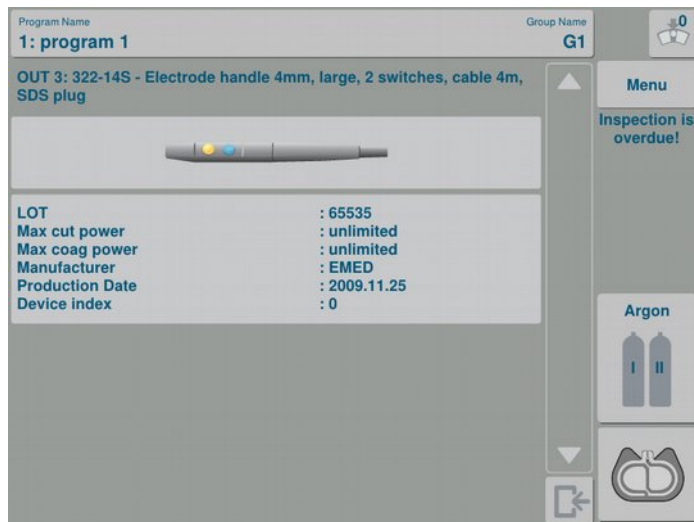

Fig. 14. Data of an instrument connected to a socket with the ASD system.
**Fig. 14** shows data on the instrument connected to the system. To display these data, touch the instrument detection status window panel (**Fig. 5, item 9**).